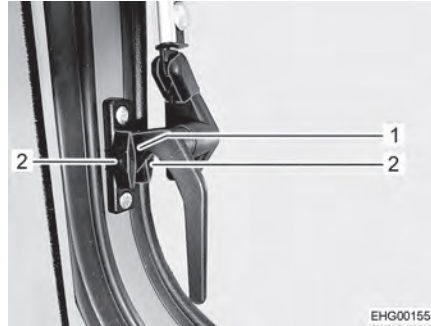

Fig. 40 Catch lever, on the side ("continuous ventilation" position)
- Turn the catch levers on the side a quarter turn downwards. While doing so, drive locking catch (Fig. 40,1) in between the two halves of the locking block.